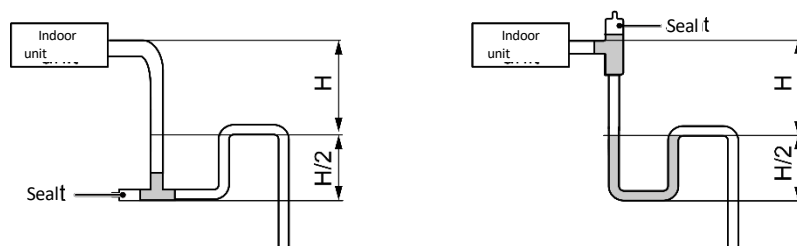

Fig. 4.3.5
- ⑤ Install the trap as shown in Fig. 4.3.5 below.
⑥ Install one trap for each unit.
⑦ Be sure to set up the trap so that it will be easy to clean later.